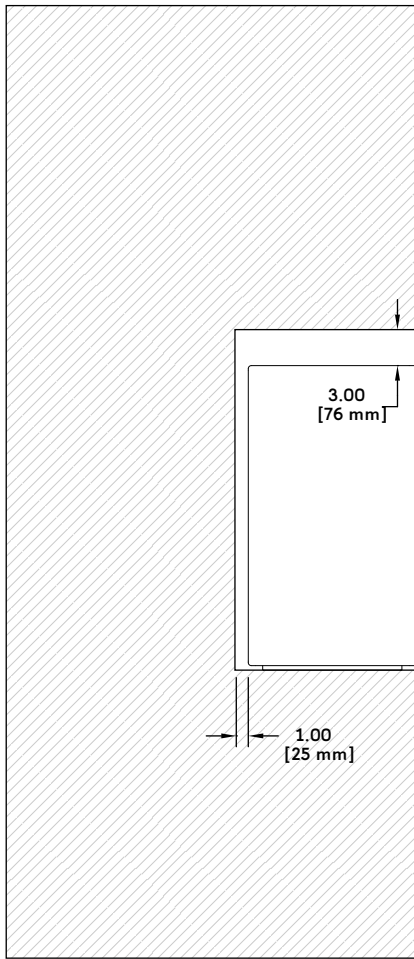

Figure 8: Acheron Designer Mounted in Soffit, 1" Behind and 3" Above Loudspeaker for Ventilation
- When installing the Acheron Designer in a soffit with the loudspeaker 1 inch from the back of the soffit (see Figure 8), allow at least 3 inches above the loudspeaker for ventilation.